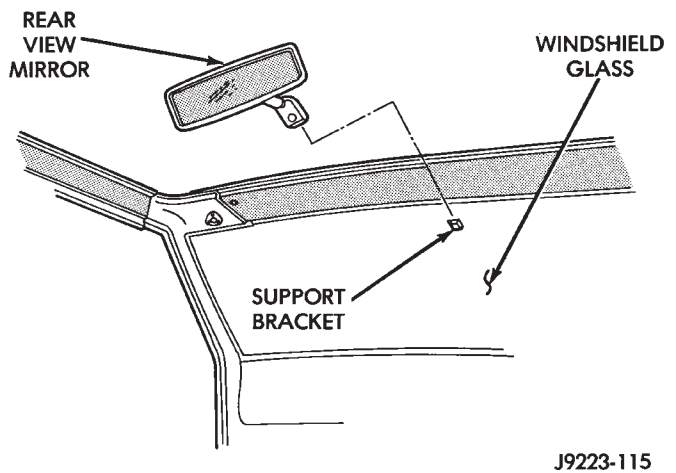

Fig. 7 Interior Rearview Mirror Removal/Installation
(2) Slide the mirror base upward and off the support bracket (Fig. 7).
(1) Slide the mirror base onto the support bracket (Fig. 7).